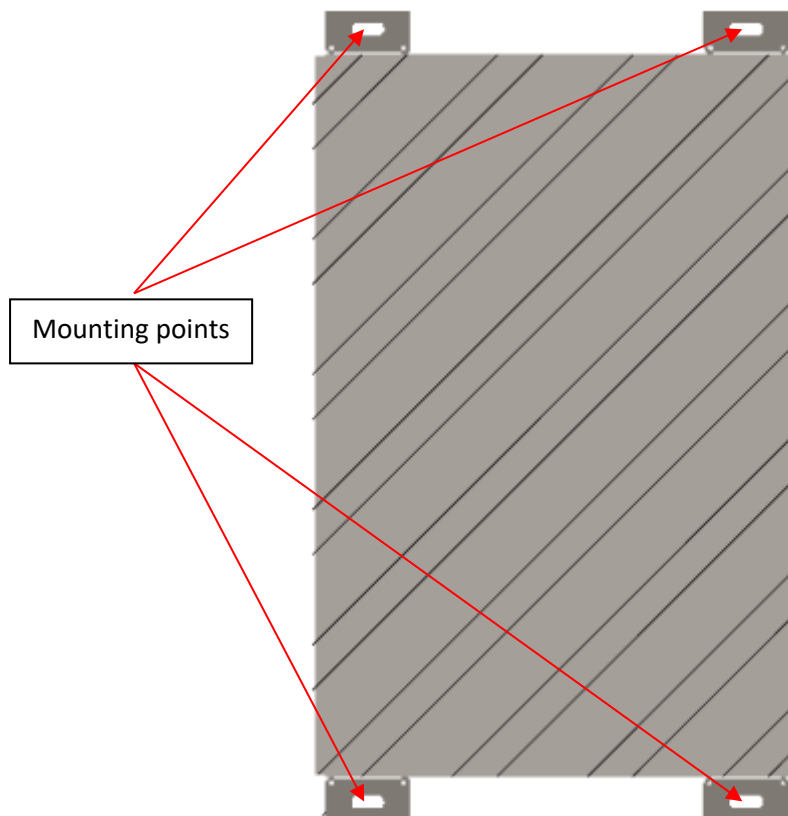

Figure 16 – Mounting points
1. Lift the battery module to its location using the mounting points specified in figure 16.